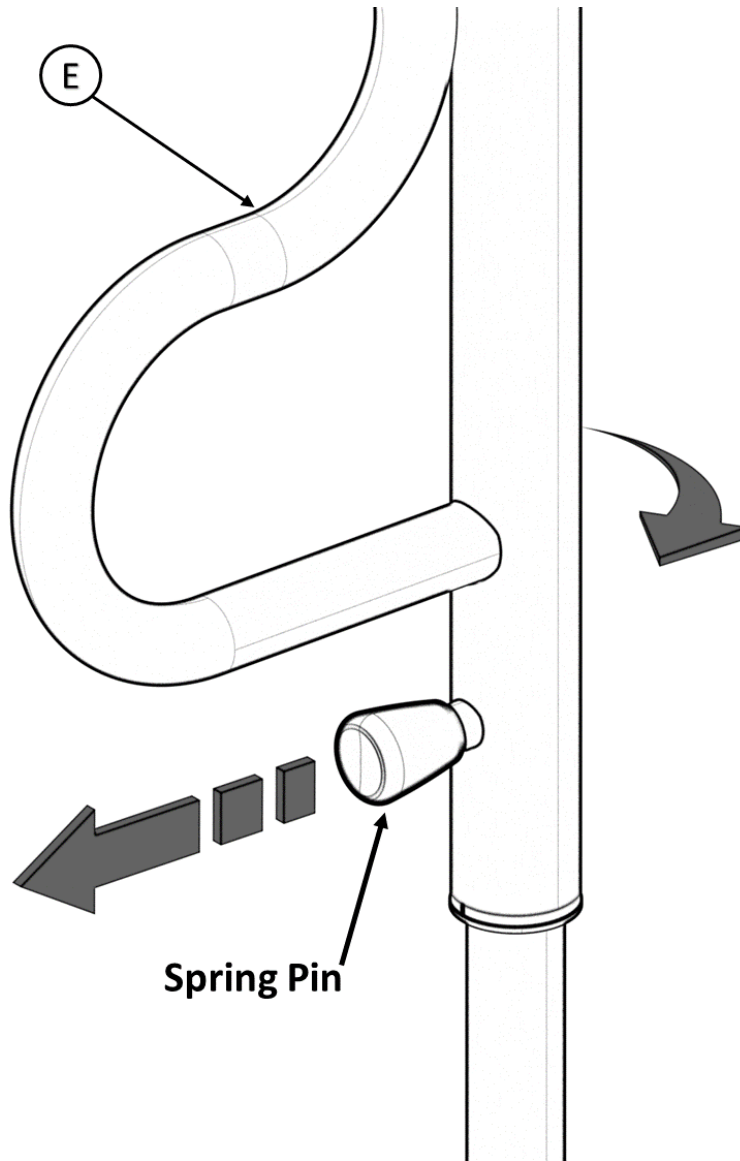

FIGURE 7
7. To rotate, pull the **Spring Pin** and rotate **E** to the desired location as shown in *FIGURE 7*. Release the **Spring Pin** and rotate **E** until the pin locks into place.